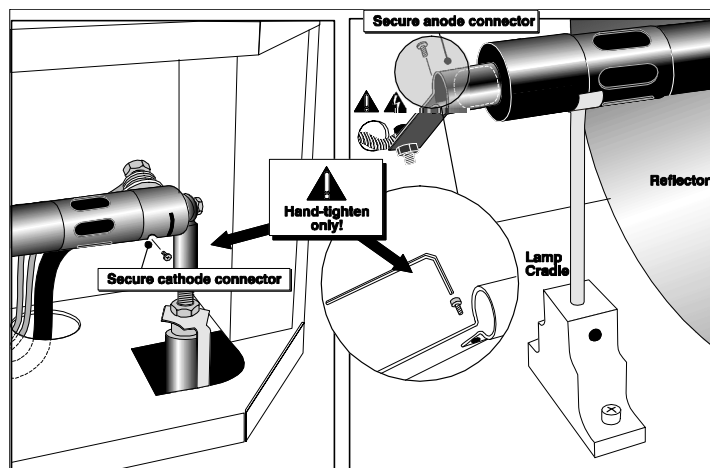

Figure 6-2 Secure Bulb at Cathode (–) and Anode (+) Connectors
1. Loosen set screws from negative/cathode (rear, 7/64”) and positive/anode (front, 3/16”) lamp connectors. These screws are shown in **Figure 6-2**. ***Make sure to apply minimal torque and DO NOT STRESS the quartz tube.***
3. Tighten setscrews in both negative and positive lamp connectors (**Figure 6-2**).